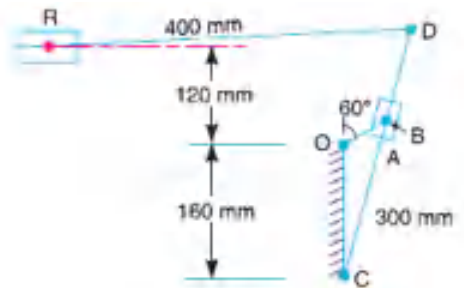

Fig. 3
7. In a quick return mechanism, as shown in Fig. 3, the driving crank is 50 mm long and rotates at a uniform speed of 200 rpm in the clockwise direction. Find the velocity and acceleration of ram R . [12M]